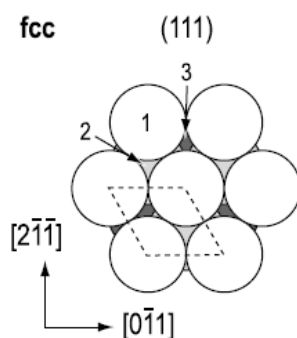
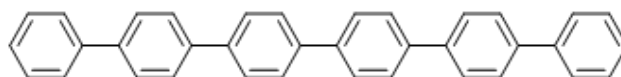

Figure 2: Arrangement of surface atoms of the Ag(111) surface
Figure 3: Structural formula of *p*-6P
You will investigate a monolayer of *para*-sexiphenyl (*p*-6P) molecules adsorbed on a clean Ag(111) surface. The molecules have been thermally evaporated onto the cleaned surface of the silver crystal. The crystal surface was cleaned by argon sputtering and annealing in UHV. Figure 2 shows the arrangement of the top layer Ag atoms of a Ag(111) surface. The structural formula of *p*-6P is shown in Figure 3.